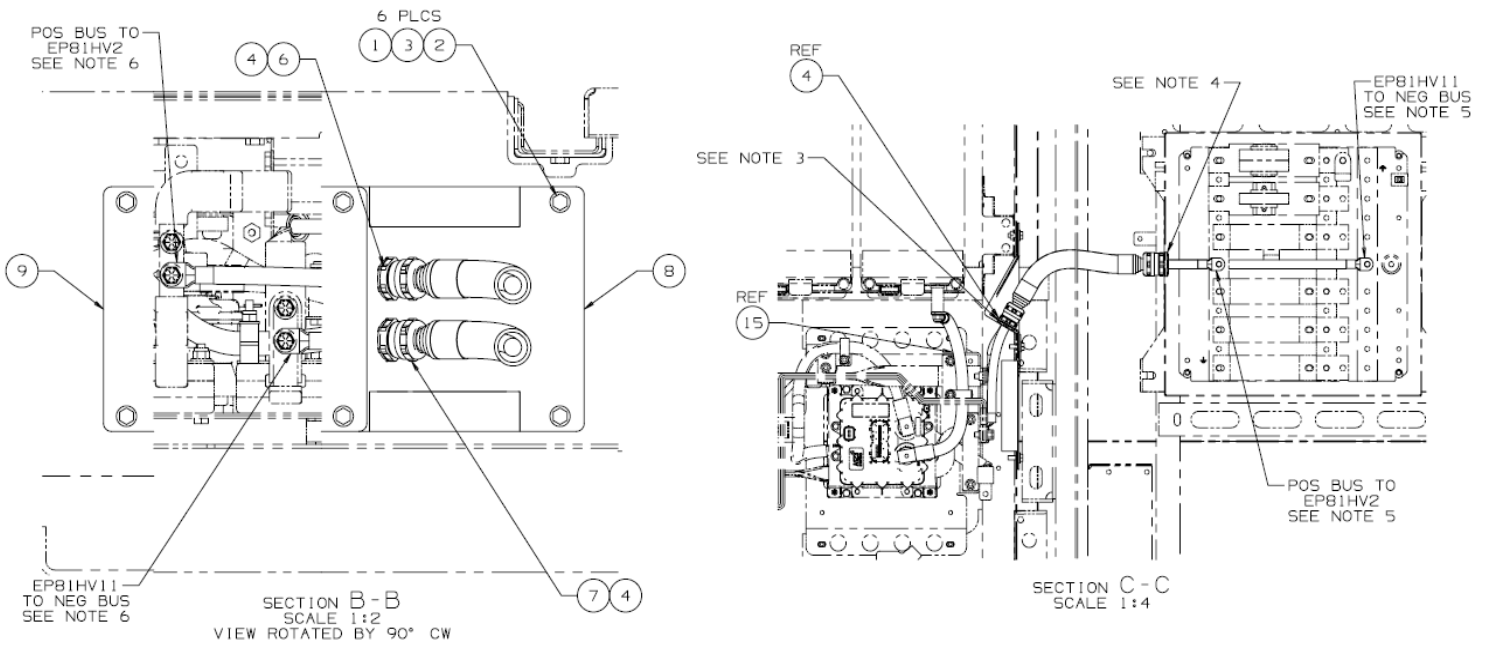

Figure 23: HV cables into ESS Routing
- 90. Ensure HV power cables coming into rack to CSM/EDM are routed correctly. See Figure 23.
- 91. Ensure 5/16 hardware in CSM/EDM is torqued to 13 FT-LBS +/- 10%. See Figure 23.
- 92. Ensure M8 hardware in HV Fuse Box is torqued to 13 FT-LBS +/- 10%. See Figure 23.